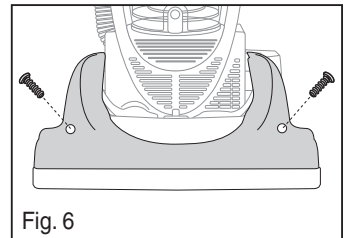

Fig. 6
- 5) Replace brush roll cover and two screws (Fig. 6).